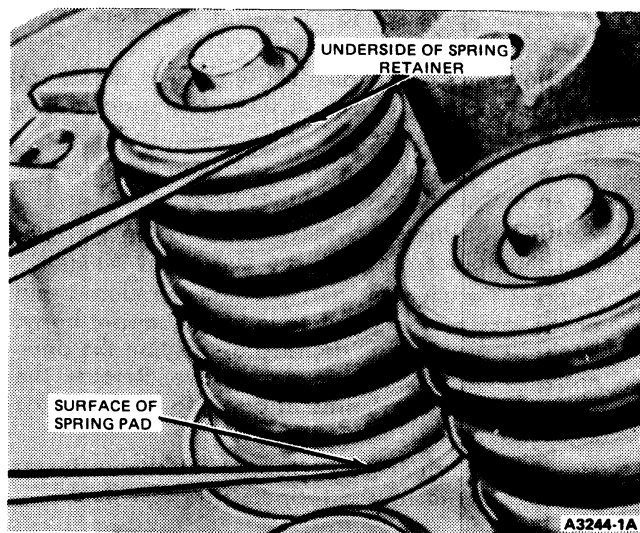

FIG. 49 Valve Spring Assembled Height
5. Measure the assembled height of the valve spring from the surface of the cylinder head spring pad to the underside of the spring retainer with dividers (Fig. 49). Check the dividers against a scale. If the assembled height is greater than specification, install the necessary 0.030 inch thick spacer(s) between the cylinder head spring pad and the valve spring to bring the assembled height to the recommended height. **Do not install the spacers unless necessary. Use of spacers in excess of recommendations will result in overstressing the valve springs and over-loading the camshaft lobes which could lead to spring breakage and/or worn camshaft lobes.**